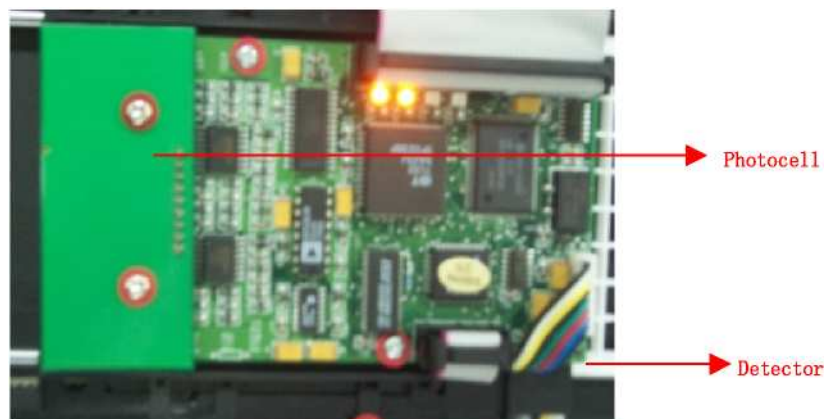

Figure 13.3 The front board
- 1) Open the upper cover,take off the two black covers.Disassemble the front board, then remove the two screws which fix the photocell,as shown in figure 13.3.